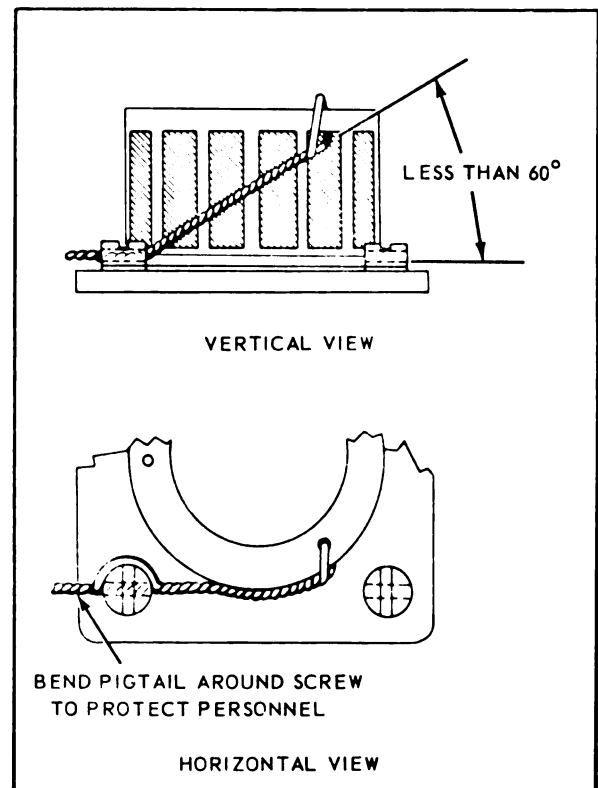

Figure 16-1. Double Twist Lock Wiring
16-11. DOUBLE TWIST LOCK WIRING. Use the double twist method of lock wiring as illustrated in figure 16-1 for all equipment in areas of high vibration, and for electrical connectors in such areas which are inaccessible.
- c. Pull one end of twisted wire through hole in drilled fillister head screw on mounting flange of connector. Use a fillister head screw so located as to allow a 60° or smaller angle of the wire, as shown in figure 16-1.